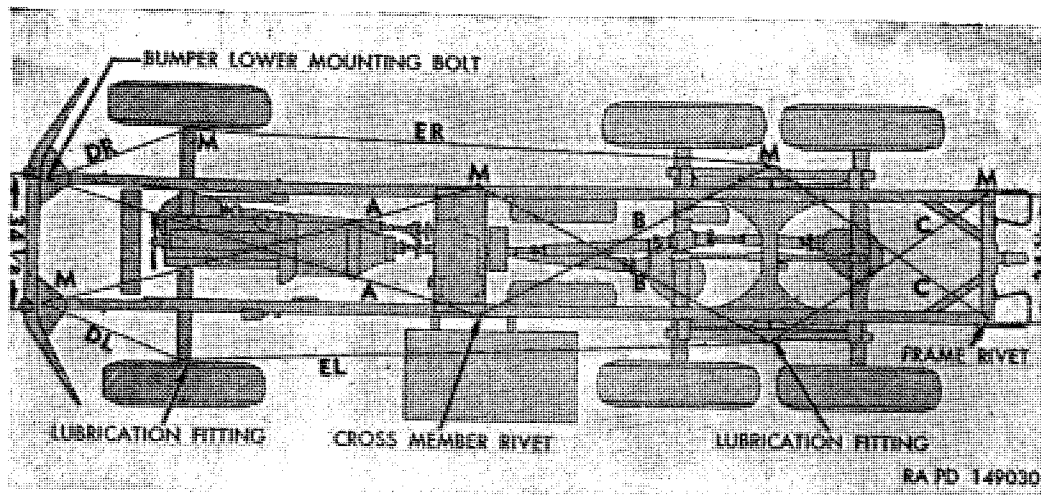

Figure 301. Method of checking frame alinement (M135 shown).
(fig. 301)
b. Checking Frame Alinement. The most convenient method to check frame alinement, particularly on vehicle equipped with a body, is by marking on the floor all points from which measurements are to be taken. This can be accomplished by tacking or cementing pieces of paper to the floor under each point of measurement. Start at front of vehicle (M, fig. 301) and drop a plumb bob from each point indicated in figure 301. Satisfactory checking is dependent upon accuracy of marks with relation to frame. When each point shown has been marked carefully and the vehicle moved away from the layout on the floor, proceed as directed in (1) through (5) below.
- (1) Check frame width at front and rear, using corresponding marks on floor. If widths correspond to dimensions given, draw centerline full length of vehicle halfway between marks indicating front and rear width. If frame widths are not correct, lay out centerline as directed in (4) below.
- (2) With centerline properly laid out, measure distance from opposite points marked over entire length of chassis. If frame is in proper alinement, measurements should not vary more than one-eighth inch at any point.